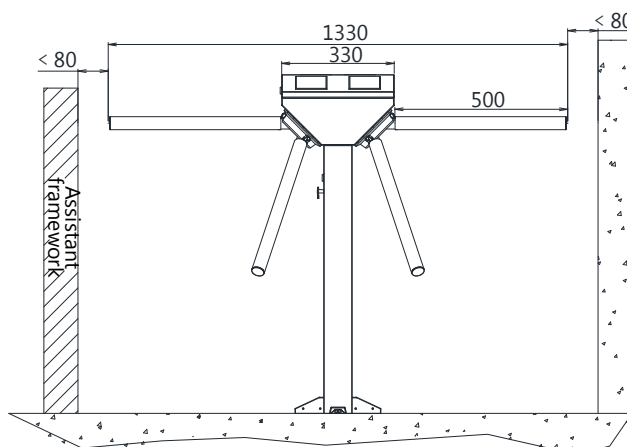

Figure 3-1
You are suggested to install an assistant framework or fence to form a passageway, as shown in figure 3-1.
1. The space at the end of the arm shall not be greater than 80 mm (see Figure 3-1).